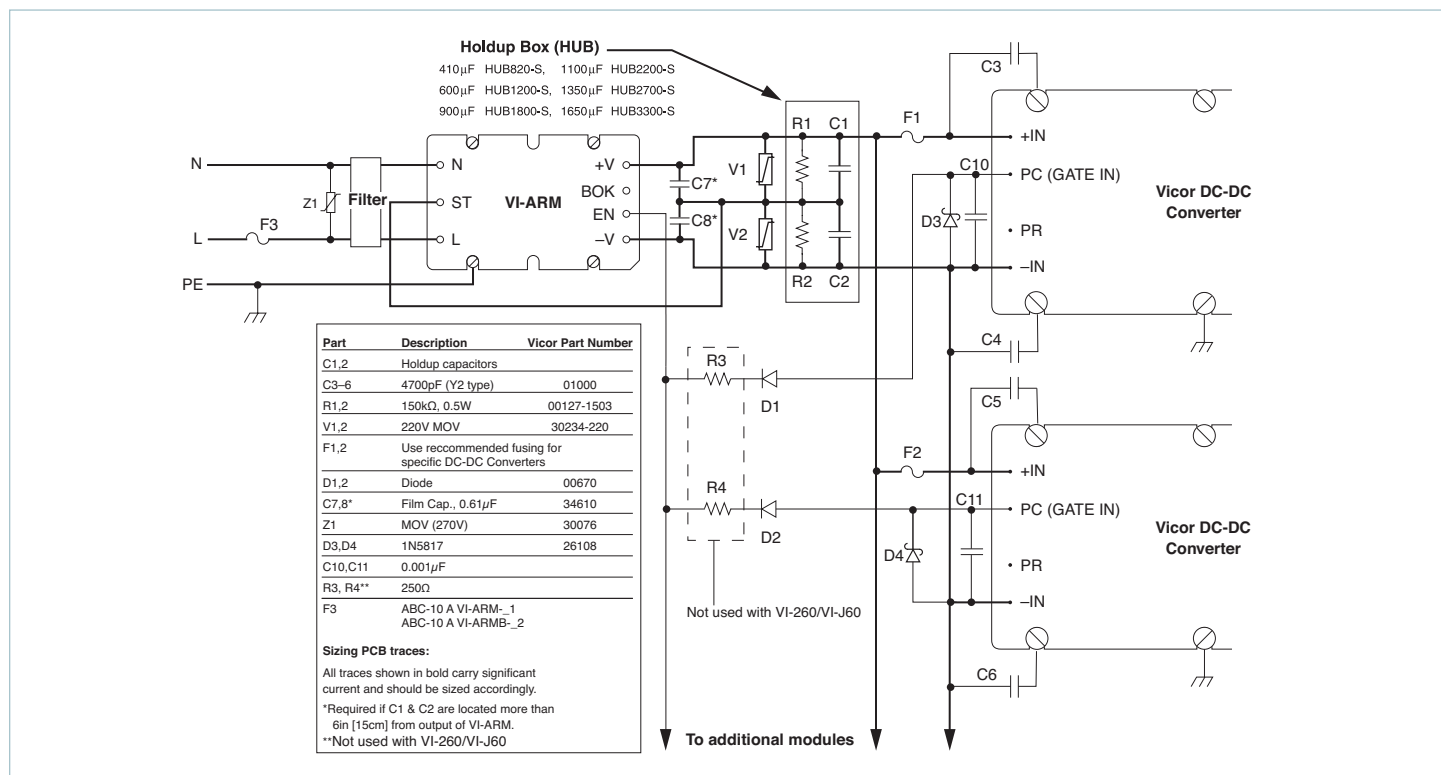

Figure 10 — Converter connections
Strap (ST) Pin: In addition to input and output power pin connections, it is necessary to connect the Strap pin to the junction of the series hold-up capacitors (C1, C2, Figure 10) for proper (autoranging) operation. Varistors across the capacitors provide input transient protection. The bleeder resistors (R1, R2, Figure 10) discharge the hold-up capacitors when power is switched off.
It should be noted that the series combination (C1, C2, Figure 10) requires each capacitor to be twice the calculated value, but the required voltage rating is reduced to 200V.